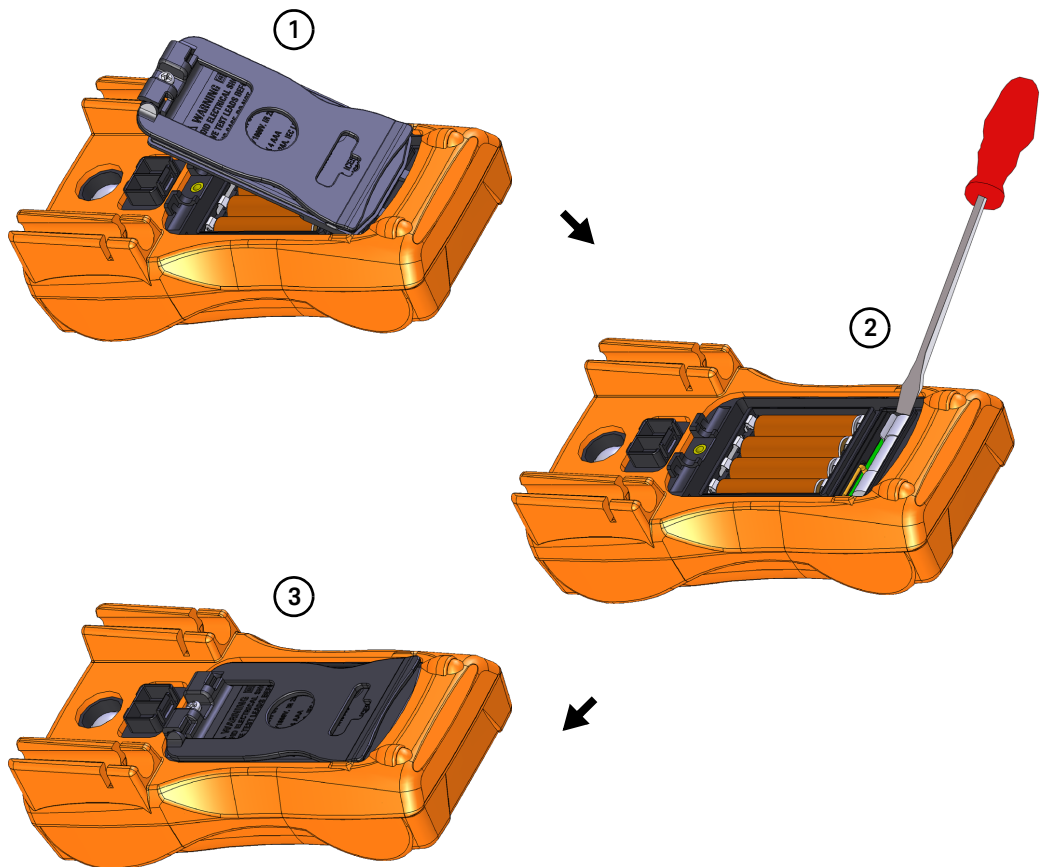

Figure 2-2 Replacing the fuse
- 2 Locate the faulty fuse.** The fuse is located at the bottom of the batteries (see Figure 2-2).